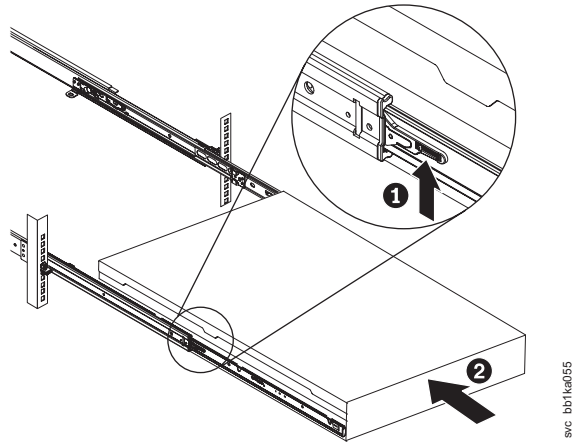

Figure 106. Raising the SAN Volume Controller 2145-CF8 or 2145-CG8 locking levers of the slide rails of the rack
12. Lift the locking levers (**1** in Figure 106 on page 124) on the slide rails and push the server **2** all the way into the rack until it clicks into place.